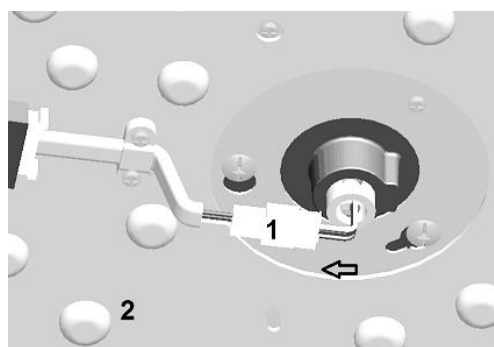

Fig. 7
5. Connect the upper plug (1) from the driver to the lower socket (1) in the LED board (2). Fig.7